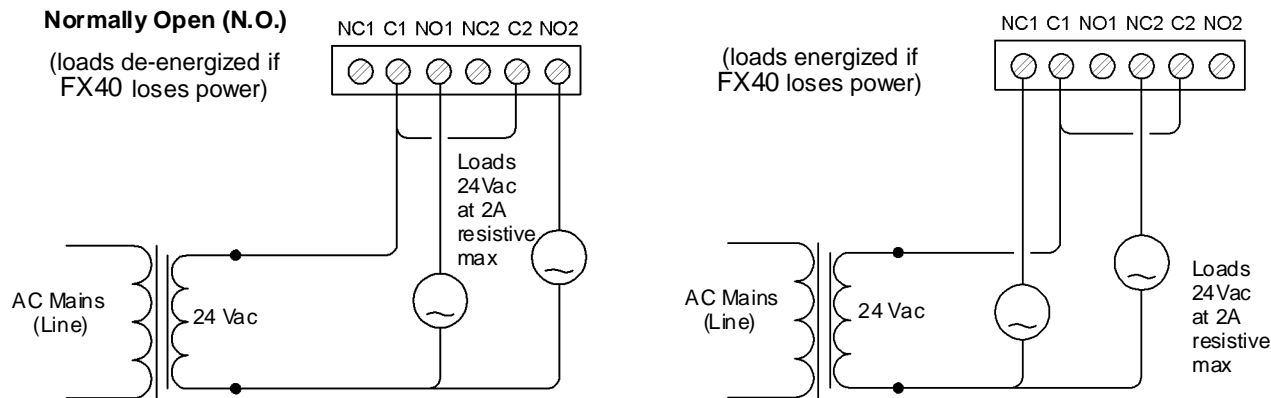

Figure 9: Example Relay Output (RO) Wiring
Four (4) form-C relay outputs provide isolated dry-contact control of 24 VAC/DC loads at up to 2A resistive. An LED indicator for each relay is located between the relay and the wiring connection point (see Relay Output Status). Figure 9 shows example wiring diagrams.